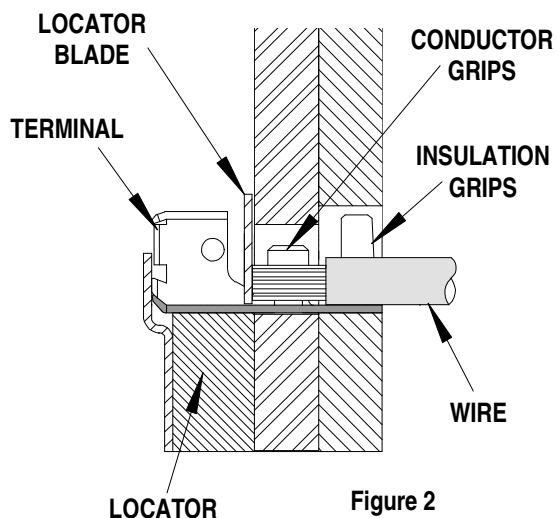

Figure 2
2. Partially close the tool until the terminal is held in place. See Figure 2.